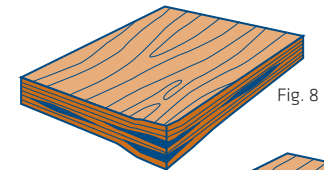

Fig. 8
**Edge Splits** - A separation of the narrow edge of the plank usually caused by forklift damage. A diagonal split may be caused by overloading. Probe the split to determine the depth; shallow weather checks are acceptable. If an open split is detected, remove the plank from service. (Fig. 8)